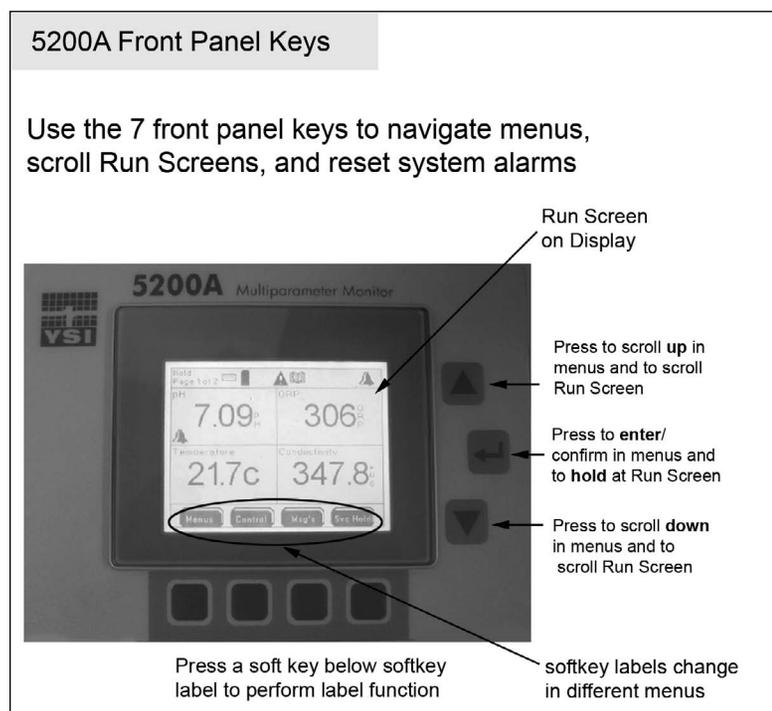

Figure 4.1
The front panel - figure 4.1, is the front component of the 5200A enclosure. The front panel contains the 5200A display and seven keys. Use the keys to navigate menus and instrument system information.
There are seven (7) 5200A front panel keys - figure 4.1. Use  and  keys to scroll and highlight menu lists and to scroll through multiple Run Screens. Use  key to select and enter a highlighted submenu item and to hold one of multiple run screens from scrolling. Hold is not an option when there is only one run screen. Run screens can be scrolled when held by pressing  and  keys.